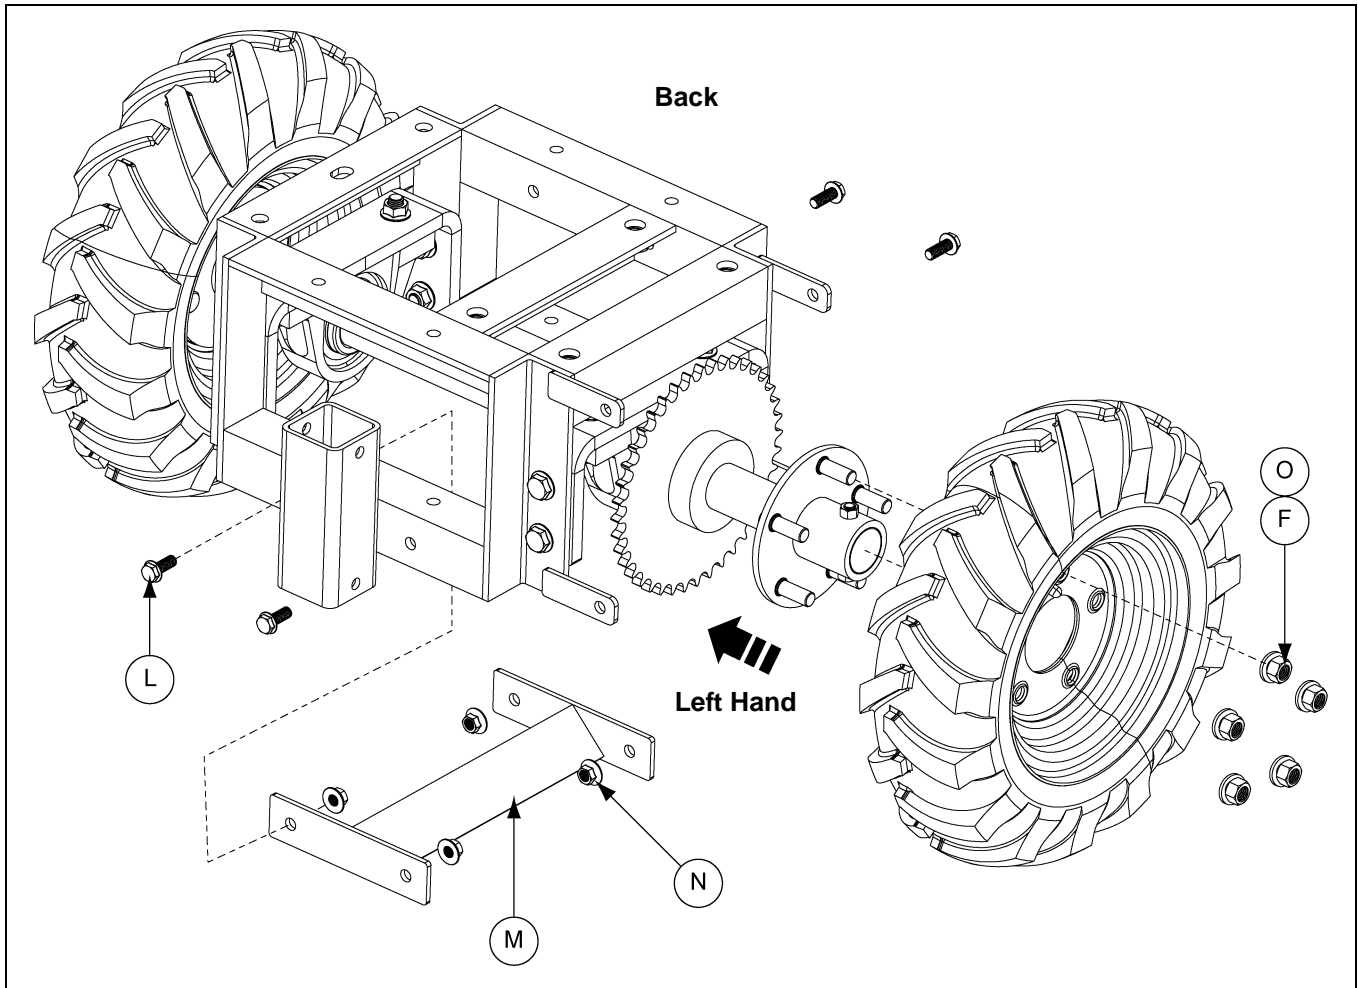

Figure 4R
7. Assemble the tire and wheel assemblies securely to the wheel hubs using five (5) 1/2" flat washers (F) and fine thread hex nut (O).
**NOTE:** Remove the screws or nails that are present in the tires to contain the foam in the tires when they are made. The treads of the tires should be in the forward direction. *Figure 4R* shows the proper orientation of the tire and wheel assemblies.
8. Assemble the strut bracket (M) to the tractor frame using four (4) 3/8"-16 x 1" flange bolts (L) and serrated flange nuts (N). (*See Figure 4R.*)